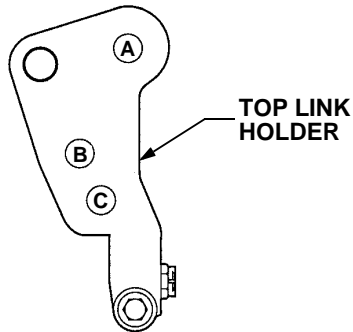

Figure 34
- Use holes A or B in the top link holder for the top link when attaching non draft sensitive implements. See Figure 34.